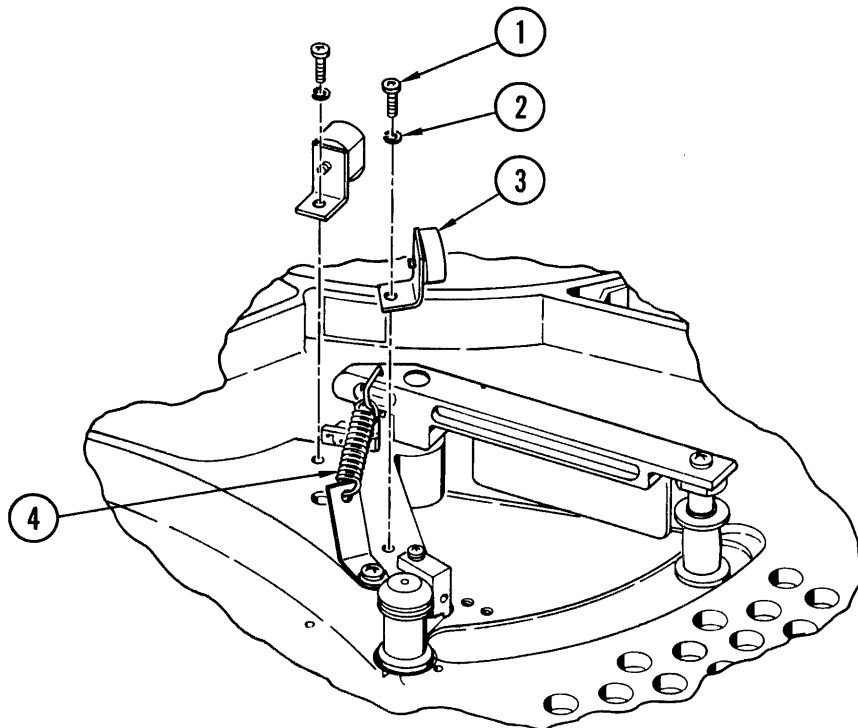

Figure 4-20. Compliance Arm Bumper Assembly
4-34. **Removal and Replacement (Figure 4-20).** With the transport in operator maintenance position (paragraph 4-2), proceed as follows:
- a. Remove screw (1, Figure 4-20), lockwasher (2), and bumper assembly (3).
- b. Reinstall in reverse order of removal, and adjust to contact compliance arm squarely. Ensure spring (4) does not touch bumper in the compliance arm's full arc of travel. Reposition bumper to clear spring if required.